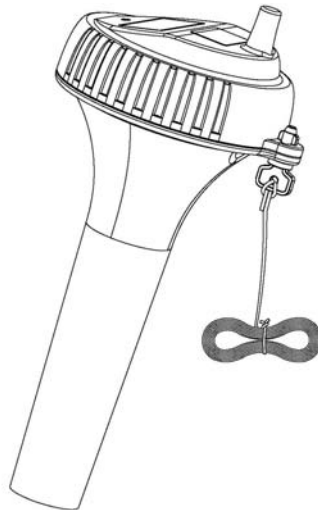

Figure 16
10. The sensor has a string to loop through the hole on KEY at the base of the tubular casing. This can allow you to hang the unit while you immerse it in water, as shown in Figure 16.